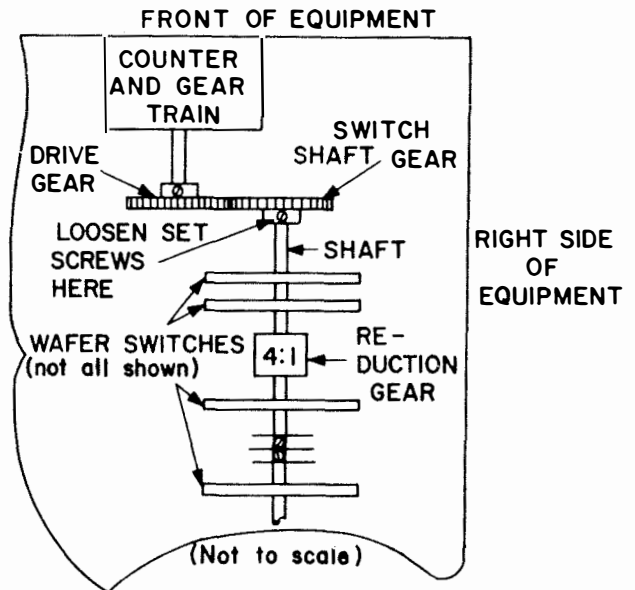

Figure 2. Delay Switch Assembly, S-206
2. If the above conditions do not exist, refer to Figure 2 and proceed as follows: